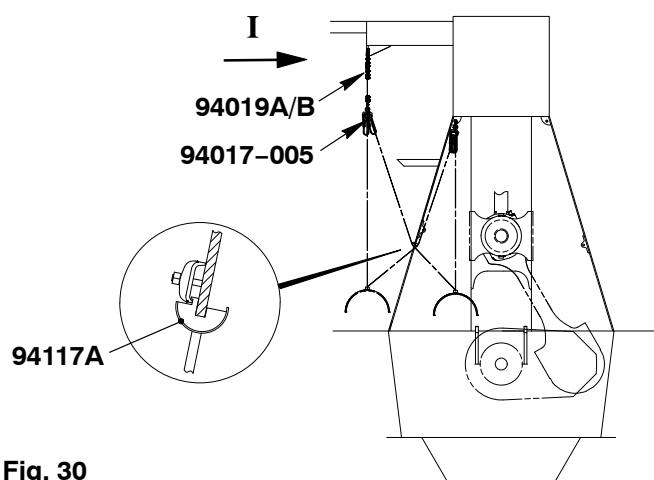
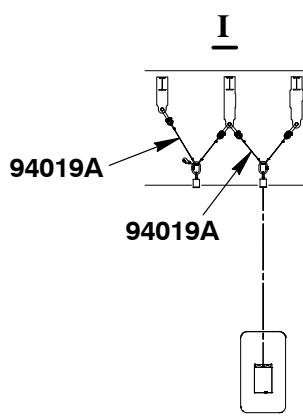

Fig. 30
Fig. 31
19) Install the deviation pipe (94117A, Fig.30) to the column.
20) Attach the chains (94019A/B) to the gallery as shown in Fig. 30 and Fig. 31.
21) Attach the chains (94019B, Fig.31) to the spur-gearred chain block (94017-005) to move the bearing shell to the fuel side like shown in Fig. 31.